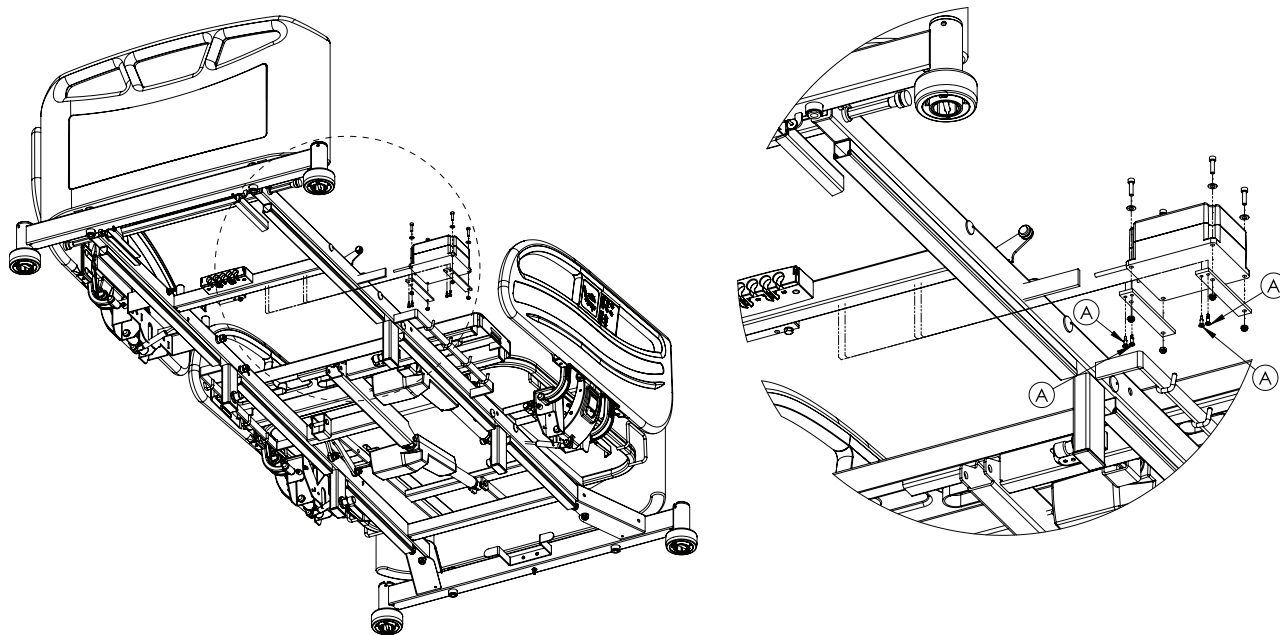

Figure 13: Battery
6. Using a #2 Phillips screwdriver, unscrew the four screws (A) that secure the battery to the litter frame (Figure 13 on page 61).